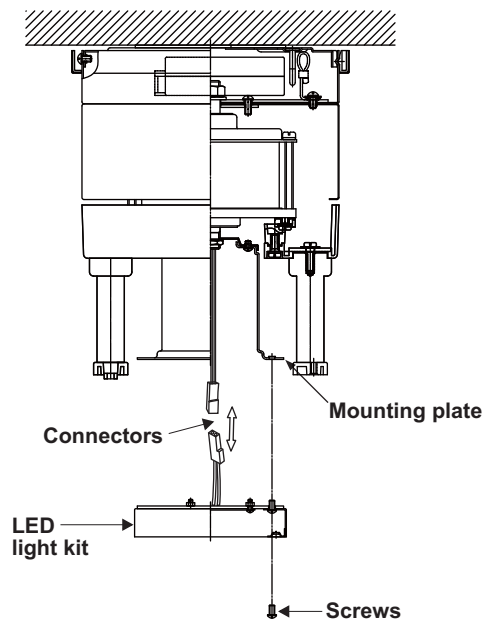

Figure 13
1. Connect the fan supply (black) wire to the black household supply wire as shown in Figure 13.
2. Raise and hold the LED light kit close to the mounting plate and proceed to do the wire connections. Make the 2-pin wire connections: (Fig. 13)
3. Place the key holes on the LED light kit over the 2 screws previously loosened from the mounting plate, turn LED light kit until it locks in place at the narrow section of the key holes. Secure by tightening the 2 screws previously loosened and the one previously removed. (Fig. 13)